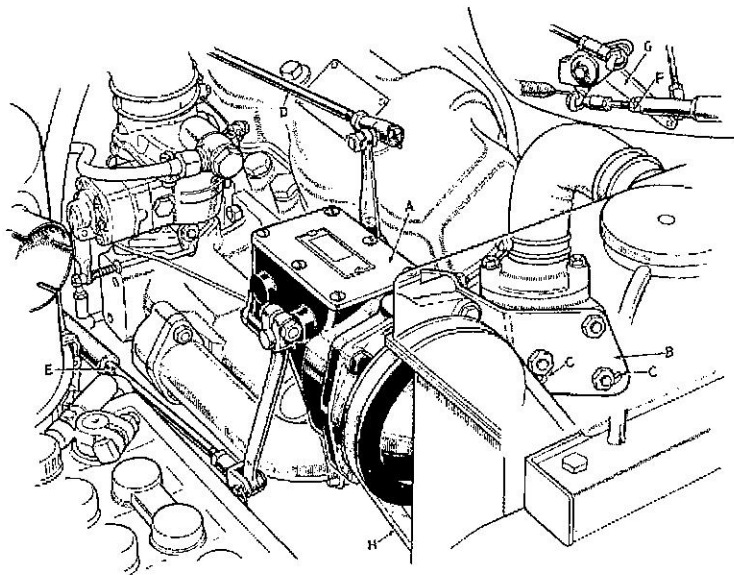

Fig. 50. Engine governor.
It is mounted on a bracket (B) affixed to the front of the thermostat housing (Fig. 50) and is belt-driven from the front groove of the water pump and fan pulley.